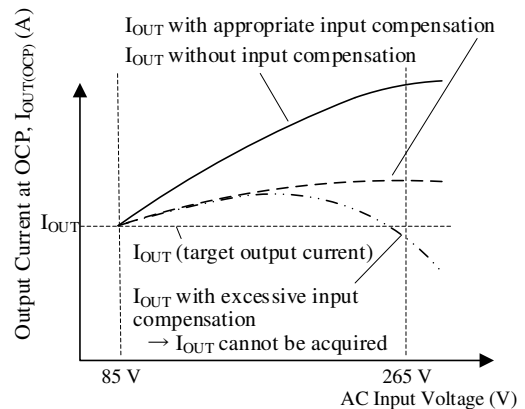

Figure 8-26. AC Input Voltage vs. Output Current at OCP (with or without OCP Input Compensation Function)
Figure 8-26 shows the relationship between AC input voltage and the output current at OCP activation, $I_{OUT(OCP)}$, with the OCP input compensation function being activated or deactivated. When the IC without the input compensation, $I_{OUT(OCP)}$ increases as the AC input voltage increases (see “ I_{OUT} without input compensation” in Figure 8-26). To regulate $I_{OUT(OCP)}$ at the maximum AC input voltage, add the OCP input compensation circuit (D_{X1} , DZ_{X1} , R_{X1}) as shown in Figure 8-27. The values of these components should be adjusted so that $I_{OUT(OCP)}$ at the maximum AC input voltage exceeds the target output current, I_{OUT} (see “ I_{OUT} with appropriate input compensation” in Figure 8-26).
$I_{DP(OCP)'}$ in the maximum AC input voltage should be set to the peak drain current where the output current is equal to “ I_{OUT} with appropriate input compensation” in Figure 8-26.
- 4) In the maximum AC input voltage (265 VAC) condition, measure the drain current, $I_{DP(OCp)'}$, when the output current, $I_{OUT(OCp)}$, becomes the “ I_{OUT} with appropriate input compensation” in Figure 8-26.
- 6) Confirm that the output current during OCP operation, $I_{OUT(OCp)}$, is similar to “ I_{OUT} with appropriate input compensation” in Figure 8-26, in an actual operation throughout AC input voltage ranges. If $I_{OUT(OCp)}$ is not appropriate, be sure to adjust the constants of DZ_{X1} and R_{X1} by changing the compensation startup voltage, $V_{IN(OCp_ST)}$.